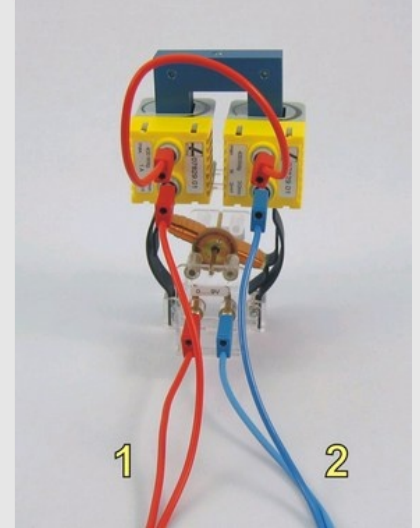

Fig. 3
- Build the model of the motor according to Fig. 3. Connect the windings of the armature and the electromagnet in parallel.